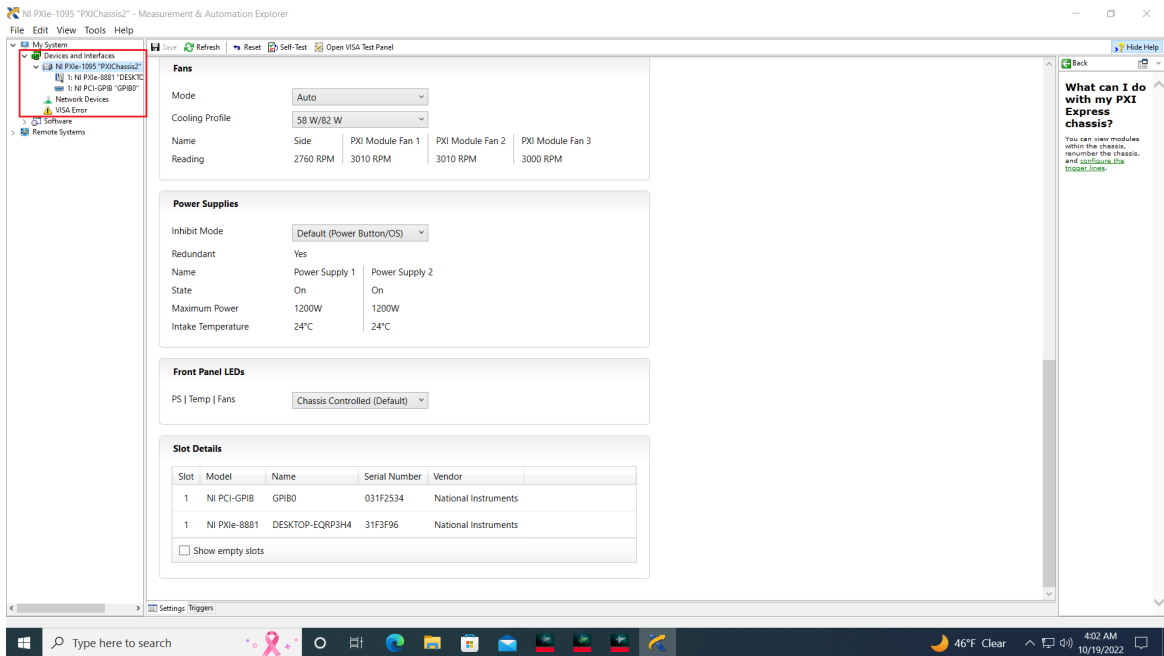

Figure 37 Non appearance of M5000 series modules in NI MAX interface
This issue is specific to the users who have installed one or more M5000 series modules in the National Instruments (NI) chassis. The modules may be detected by the Keysight IO Libraries Suite. However, if you do not see those under “Devices and Interfaces” in the NI – Measurement & Automation Explorer (MAX) Interface and see VISA error, as shown in Figure 37, the possible reason is that the NI associated drivers were not installed properly.